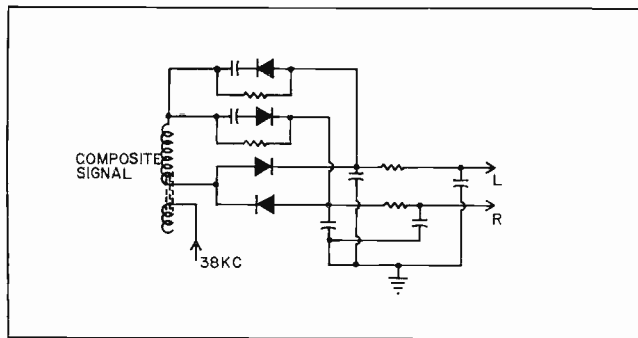

Fig. 3—Demodulating system used in time division multiplex decoders.
in the matrixing system and is applied to the diodes. This voltage switches the diodes so that each diode is gated on when its respective left or right signal is present. This system is shown in Fig. 3.
Fig. 3 (A)—Treble boost and cut shown in 1, 2, 3, order: maximum boost, intermediate boost, flat, intermediate cut and maximum cut. (B)—Bass boost and cut in the same order.